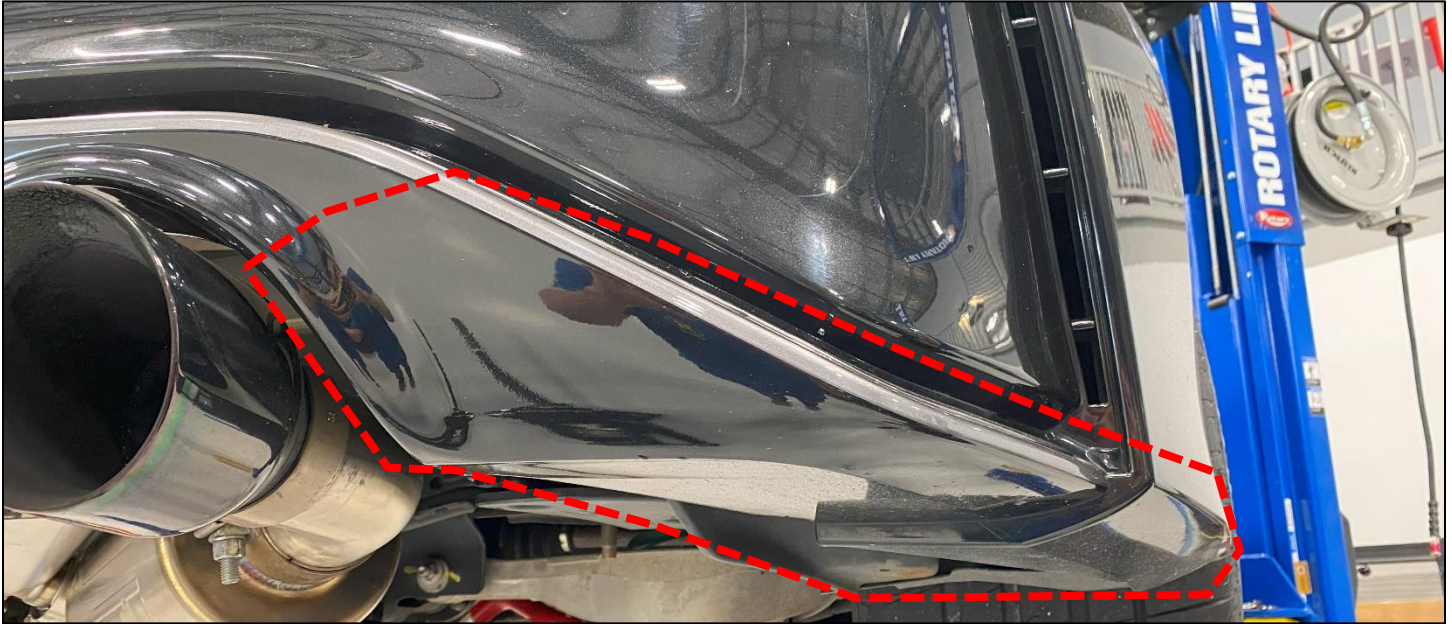

Figure 1
3. Using Detailing Spray and a rag, clean the Rear Bumper of any dirt and debris. *Figure 1.*